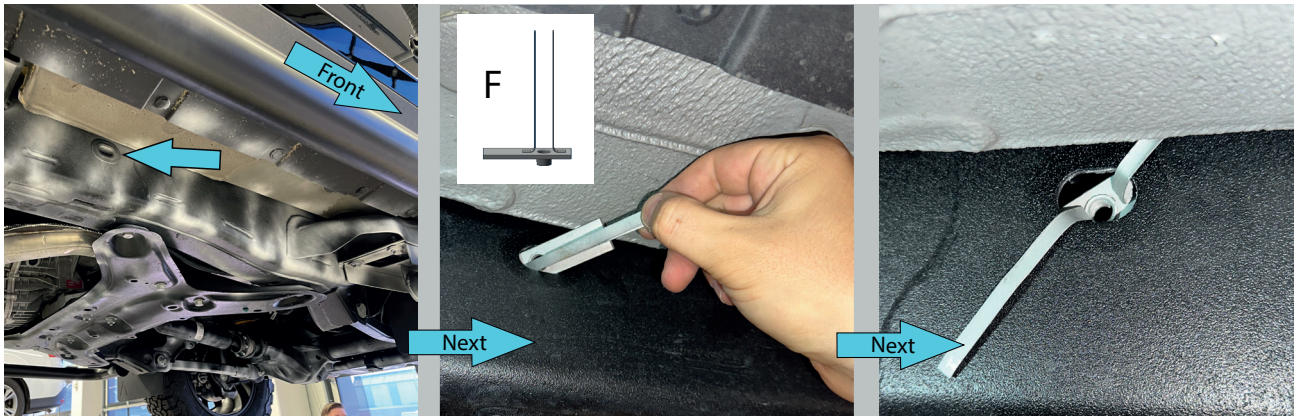

Fig. 3
3. Remove factory plug and install insert nuts M10 with wires (item F) into holes on both sides of the vehicle as shown in fig.3.